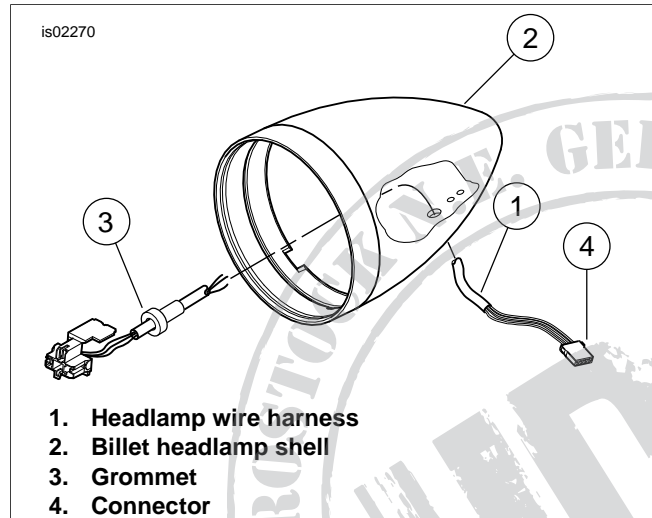

Figure 3. Install Wiring Harness in Billet Headlamp Shell
1. See Figure 3. Feed headlamp wire harness (with grommet) (1) through hole in billet headlamp shell (2), but do not seat grommet (3) in hole.
2. *Softail and Dyna:* Install harness wires into connector (4) in same locations as noted in removal.